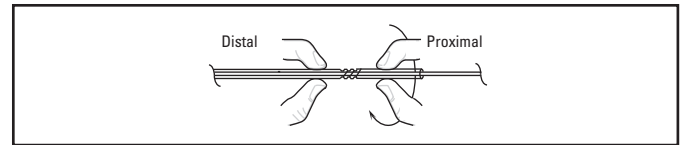

Figure 3. Lock via Clockwise Rotation
- Lock the Twist-Lock mechanism with a clockwise rotation (see Figure 3) and insert the tapered distal end of the introducer sheath through the RHV and into the hub of the 2-tip infusion microcatheter until the sheath is firmly seated. A slight buckling of the introducer sheath indicates proper positioning. Tighten the RHV around the introducer sheath to prevent the back flow of blood, but not so tight as to damage the coil during its introduction into the catheter.